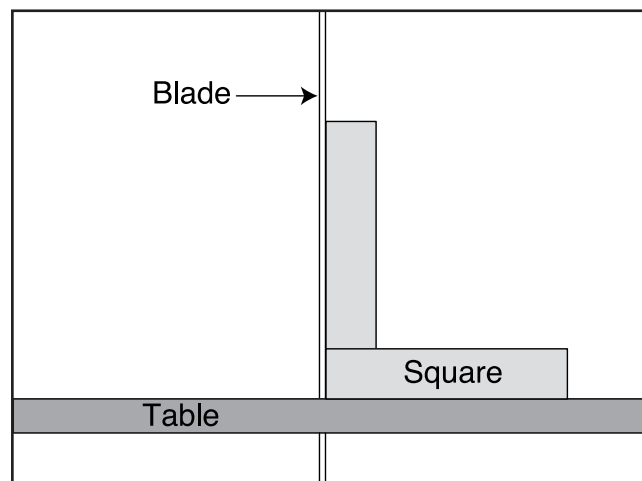

Figure 50. Checking table alignment with the blade.
4. Use a square to check table alignment with the side and the back of the blade, as shown in **Figure 50**.